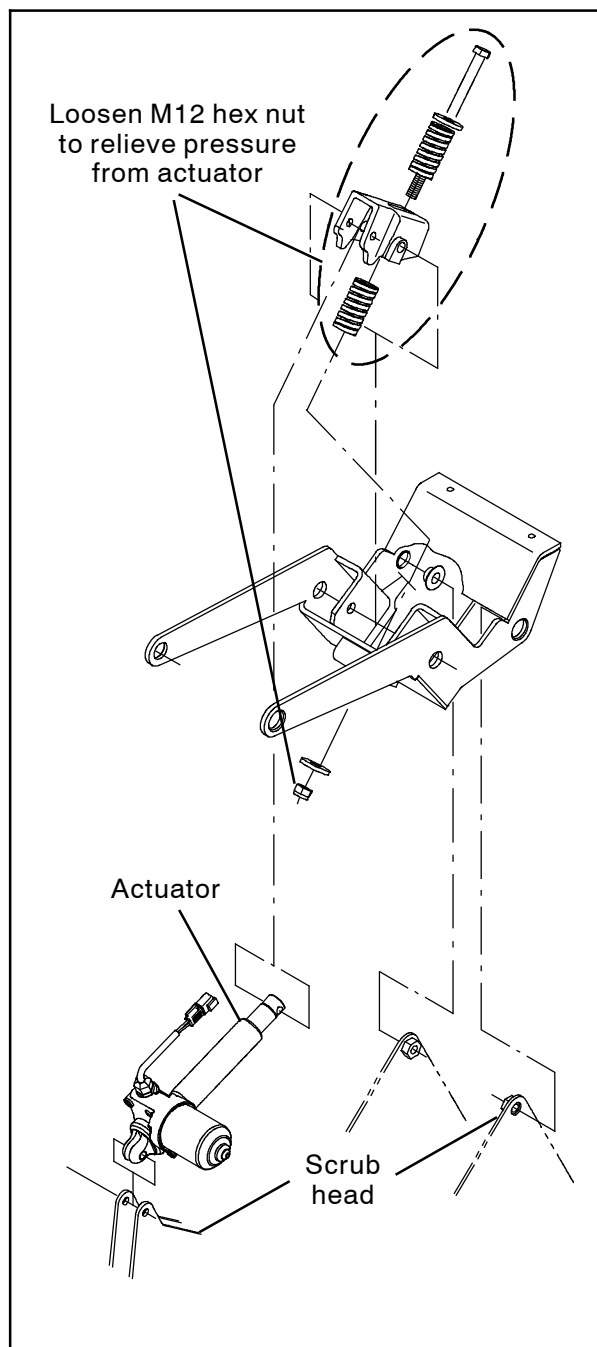

FIG. 1
3. Loosen the M12 hex nut to relieve the pressure from the actuator. (Fig. 1)
17. Tighten the M12 hex nut to set the pressure for the actuator. (Fig. 1)